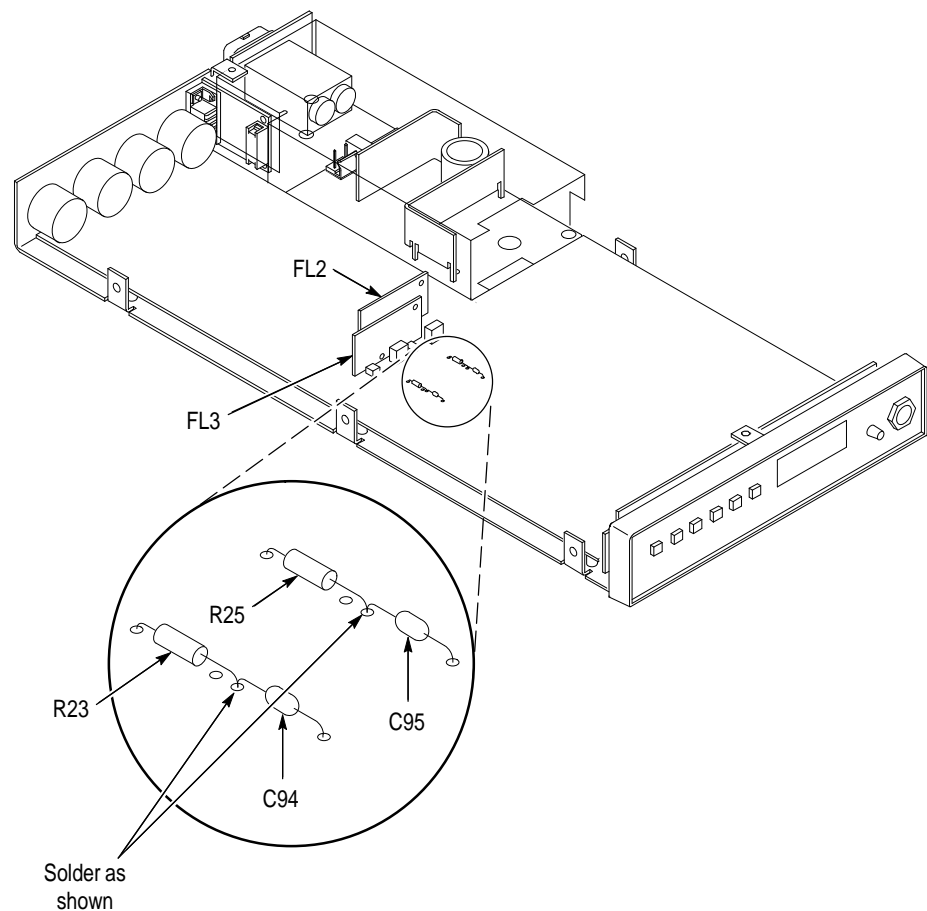

Figure 2: Installing and soldering R23 and R25
7. Refer to Figure 2 and solder one end of the new R23 to C94. Do not allow the resistor lead to touch the original hole in the circuit board.
9. Refer to Figure 2 and solder one end of the new R25 to C95. Do not allow the resistor lead to touch the original hole in the circuit board.